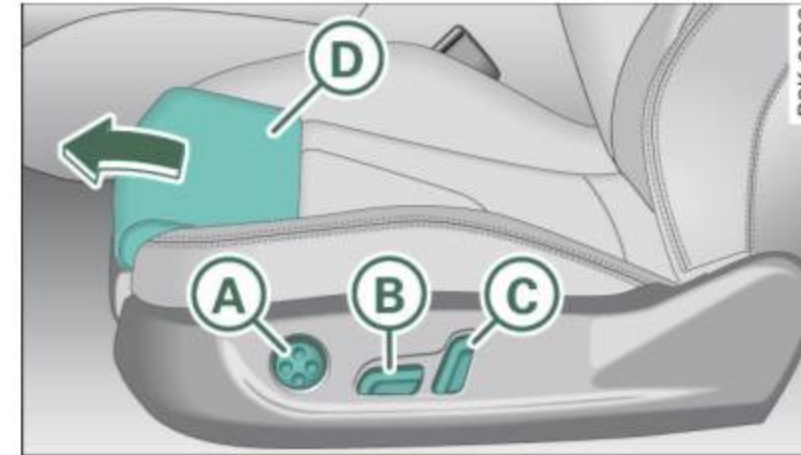

Fig. 70 Front seat:
- Push the switch  forward or backward ⇒ *page 76, fig. 70.*